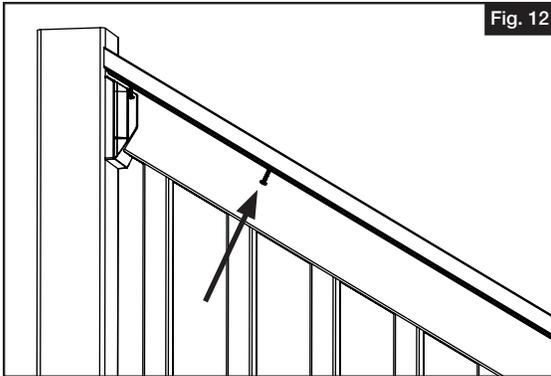

Fig. 12
- b. Drive #10 x 3/4" screws up from under rail centered through slotted holes and into deck board (Fig. 12).